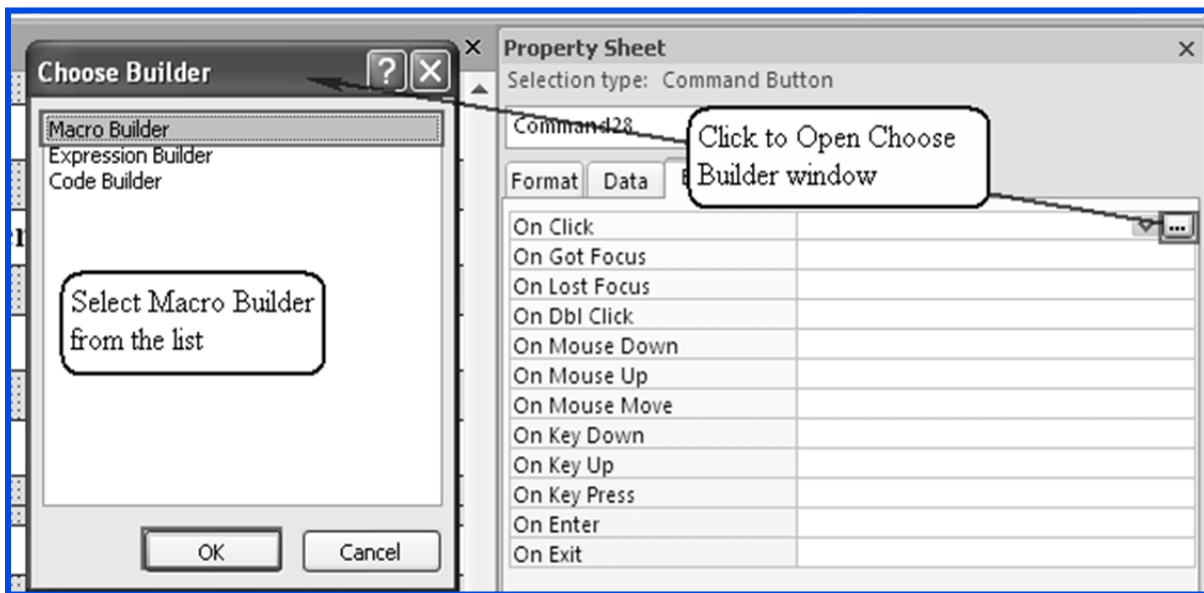

Fig. 4.2.29: Open Macro Builder
5. Select *Macro Builder* from the list in the *Choose Builder* window, as shown in Fig. 4.2.29. Click the *OK* button.